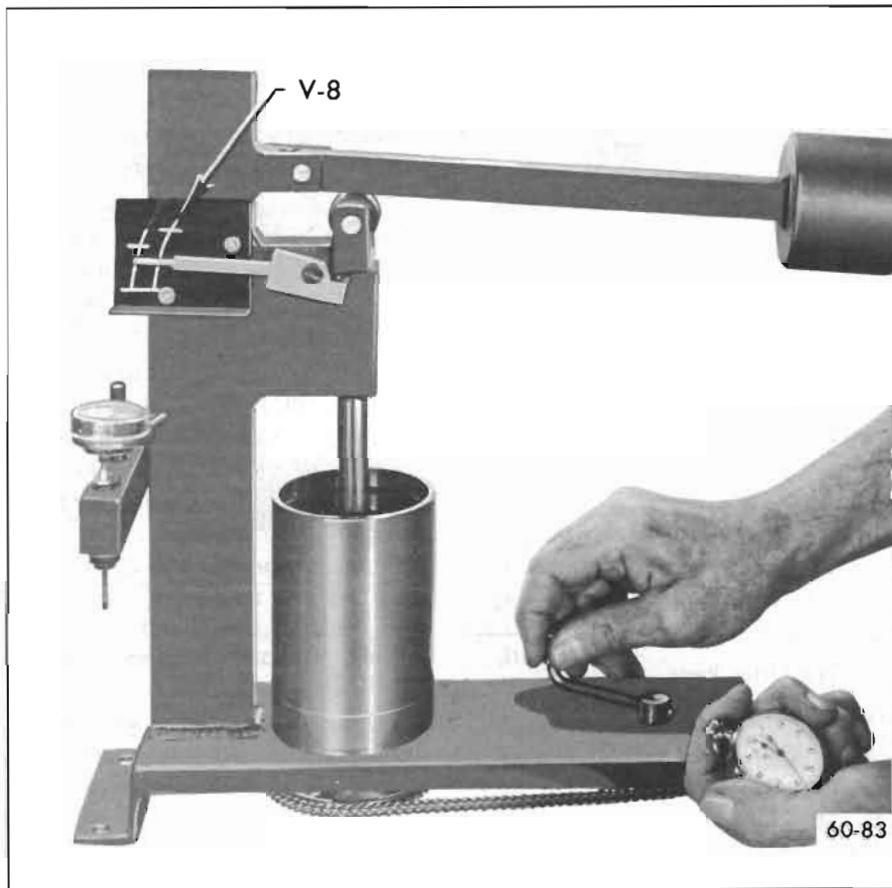

Figure 60-83—Checking Lifter Leakdown Rate
4. Lower the ram to rest in the lifter push rod seat, then lower the weight arm to rest on the roller of ram as shown in Figure 60-83.